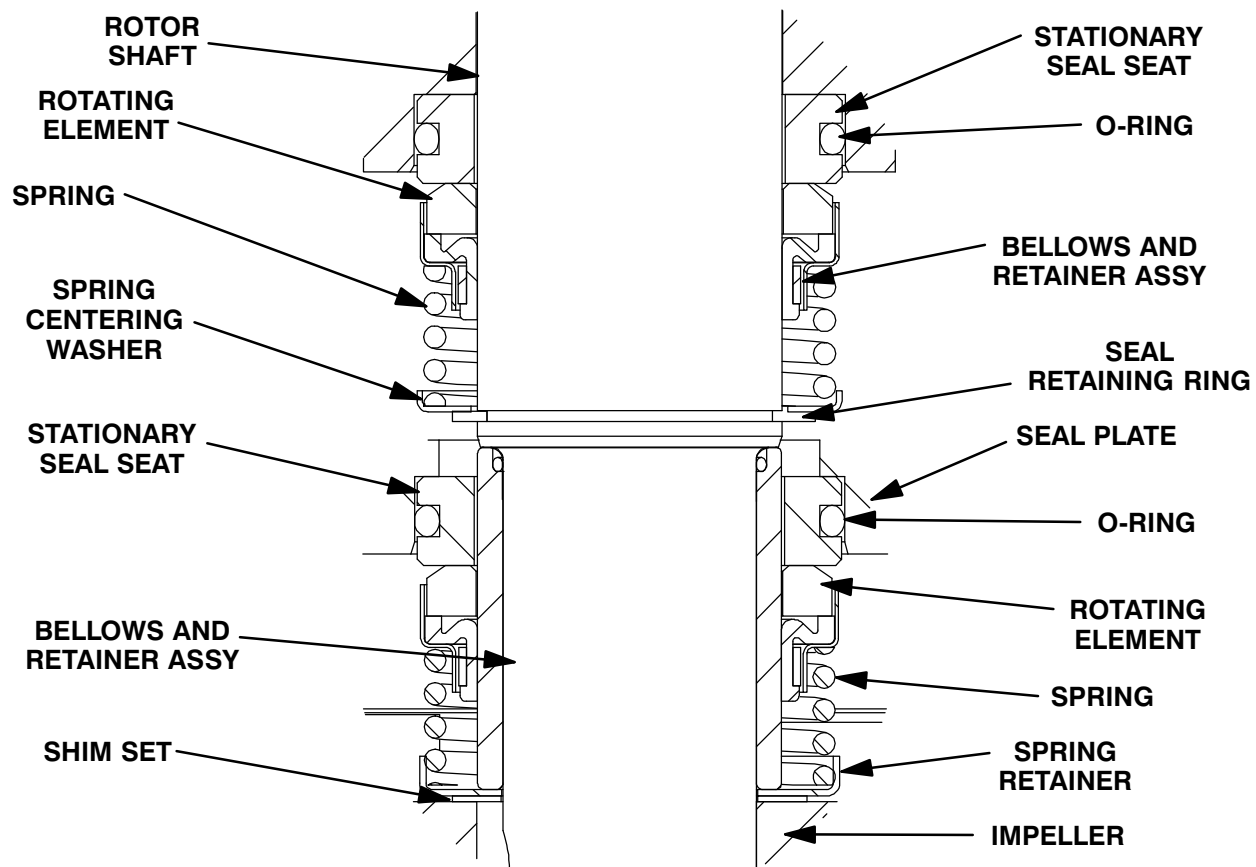

Figure E-3. Upper And Lower Seal Assemblies
Install the shaft seals as illustrated in Figure E-3.
Slide the seal spring over the shaft and bellows retainer and install the spring centering washer. Install the seal retaining ring (10). See Figure E-3 for the proper order of seal assembly.
Install the seal spring over the bellows retainer. See Figure E-3 for proper order of seal assembly.